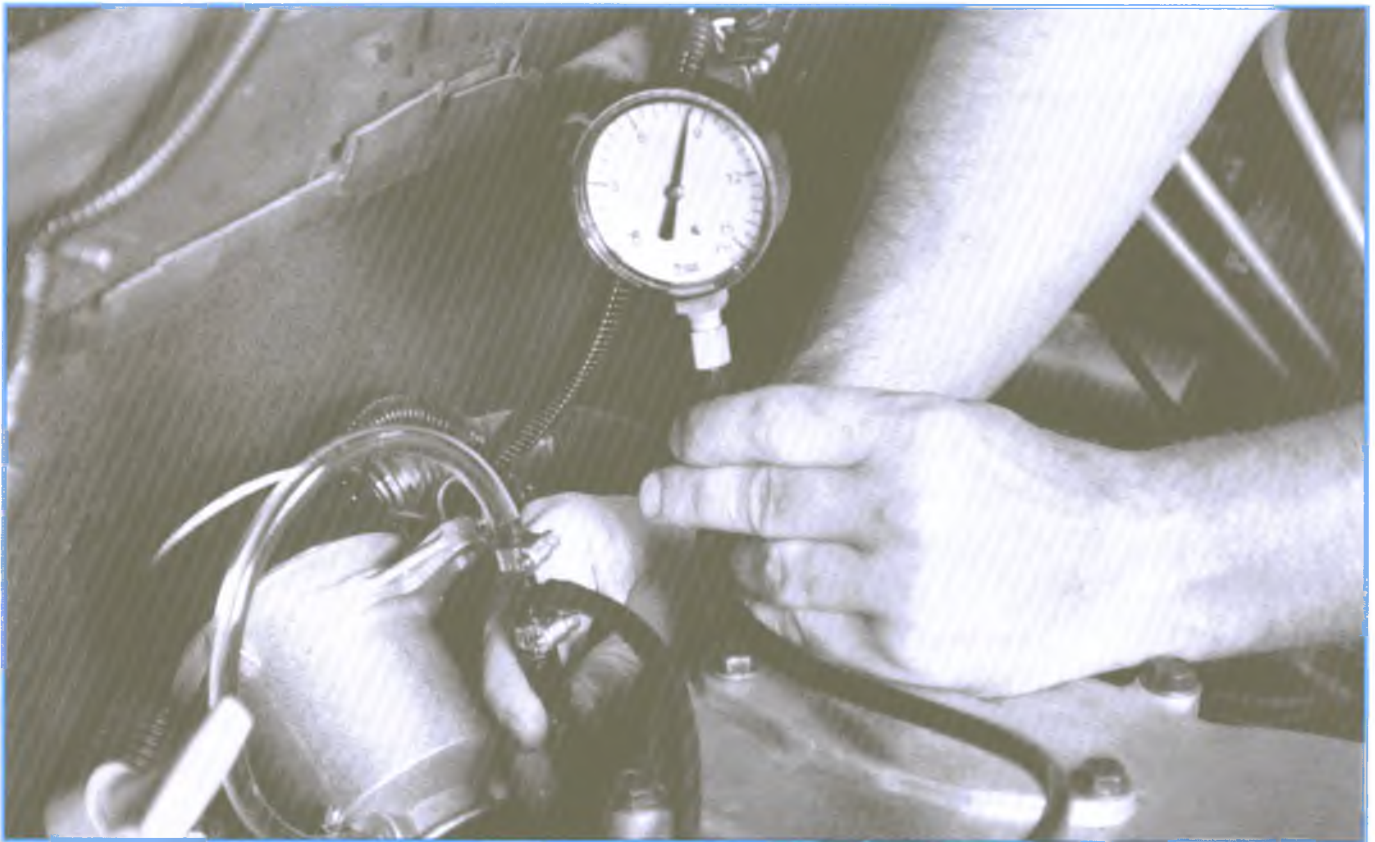

Figure 7-67, Pressure Checks at Fuel Filter Outlet
- H. Repeat the lift pump output pressure check (see Figure 7-67):